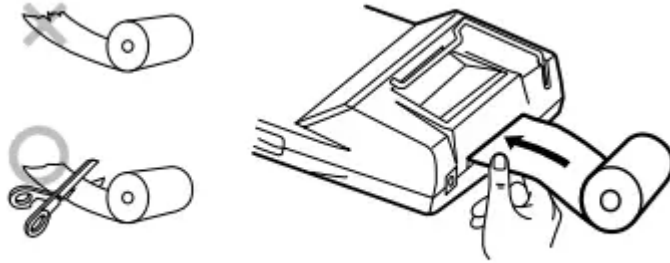

Fig. 1
1. Inert the loading adage of the paper mil int tha opening (Fig 1)